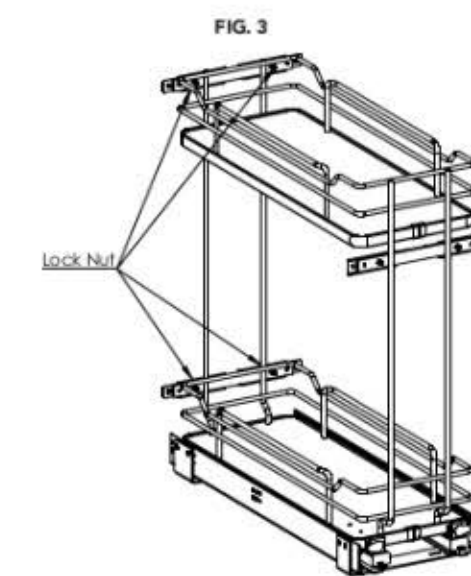
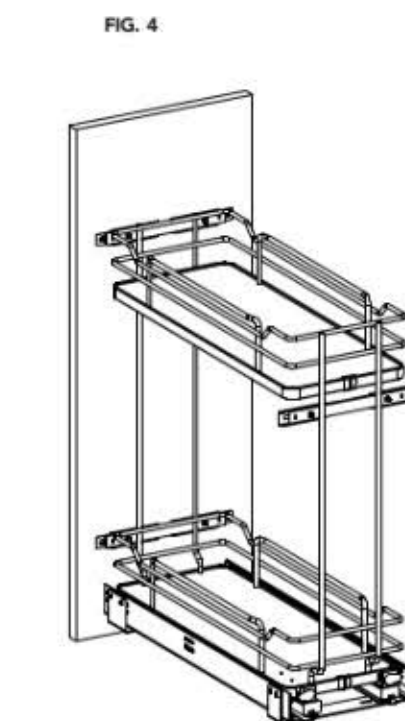

FIG. 3
FIG. 4
- 1) With an 8 mm wrench, loosen the (4) lock nuts located inside the front wall of the unit (Fig. 3).
- 3) Using (4) #6x1/2" flat head screws, attach the door to the pullout unit.
- 4) If the door needs to be adjusted sideways, loosen the (4) lock nuts and adjust the door (Fig. 4).